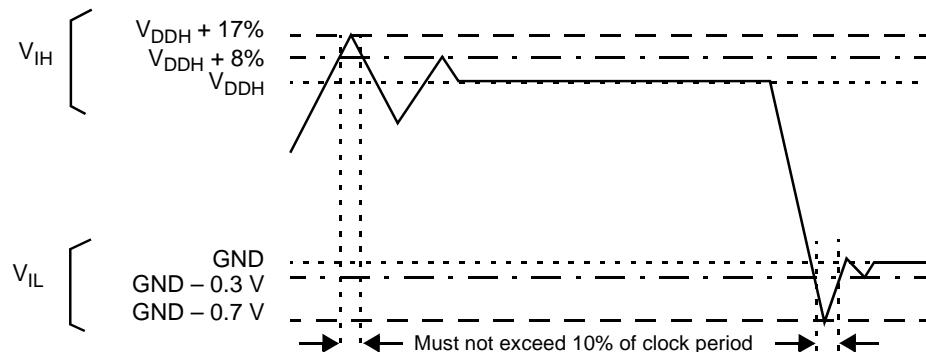

Figure 5. Overshoot/Uncrossing Voltage for V_{IH} and V_{IL}
1. See **Figure 5** for undershoot and overshoot voltages.